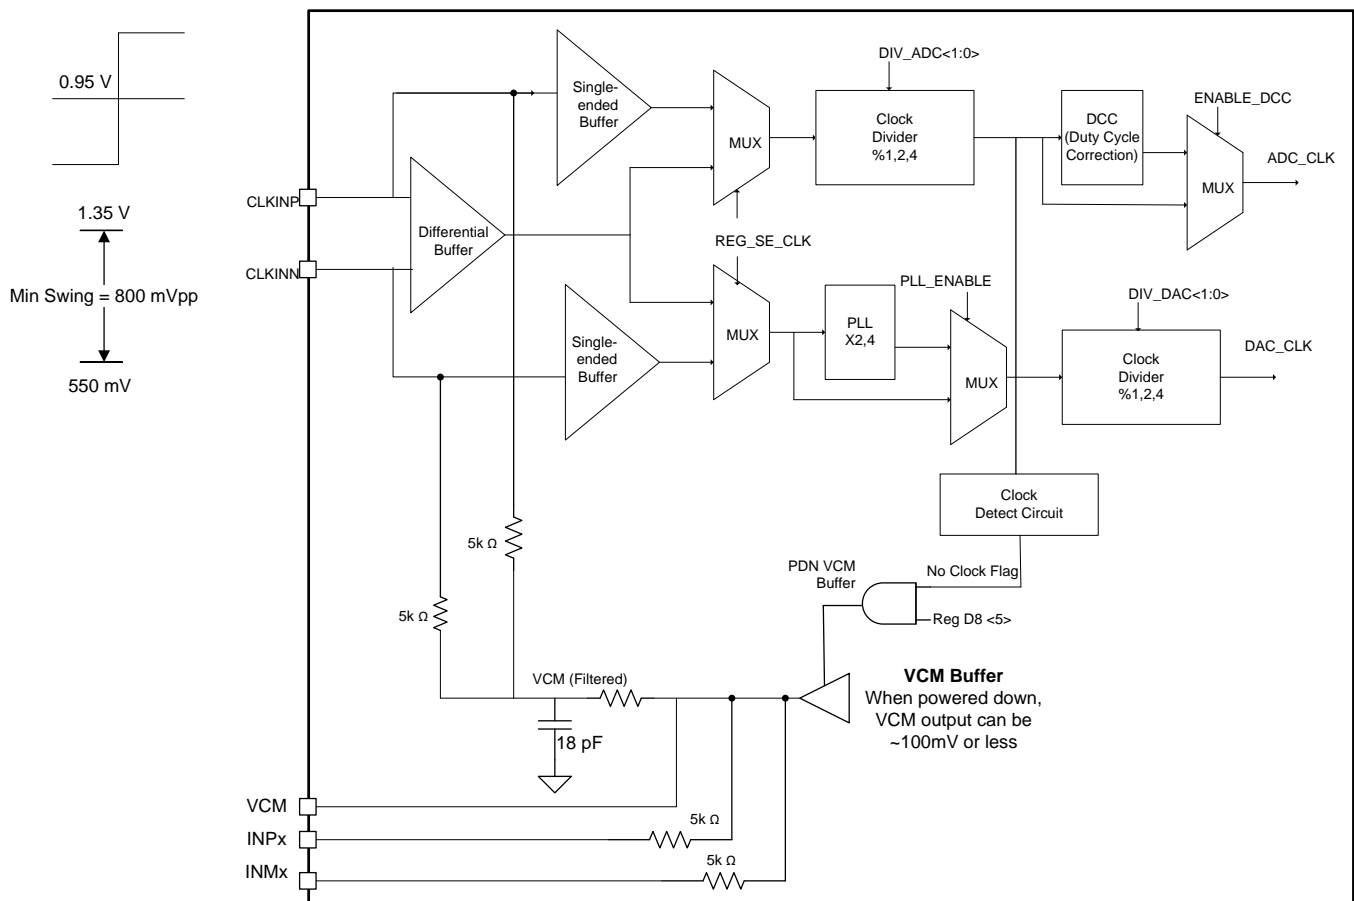

Figure 1. Internal Clock Circuit in AFE7225
- The CLKIN[P|N] pin is internally biased to VCM voltage as shown in Figure 1.